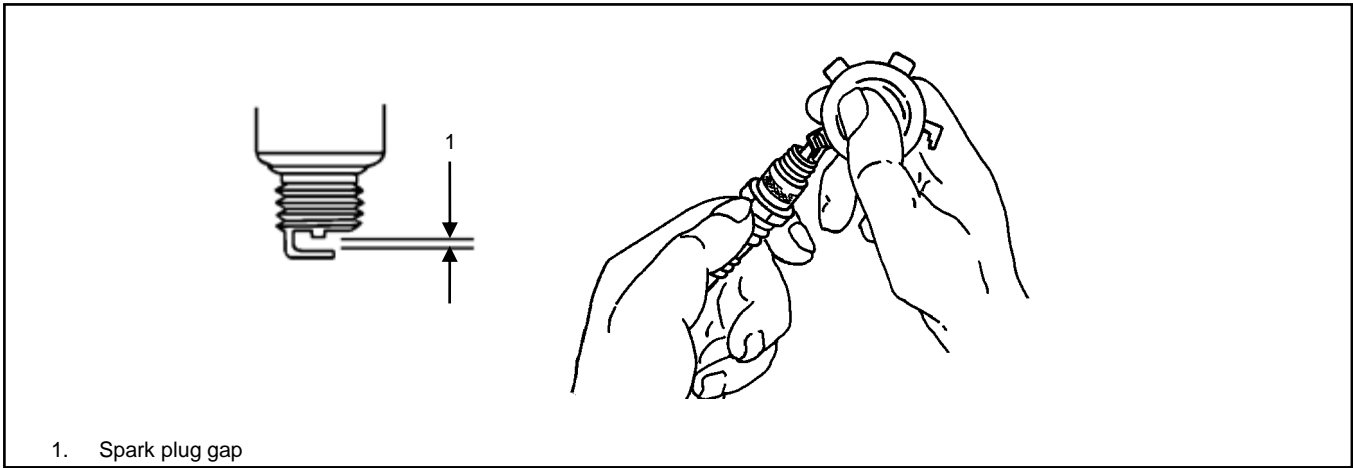

Figure 26 Spark Plug Gap
8. Use a spark plug gap tool to measure the gap on each spark plug. Adjust the gap to specification. See Figure 26.